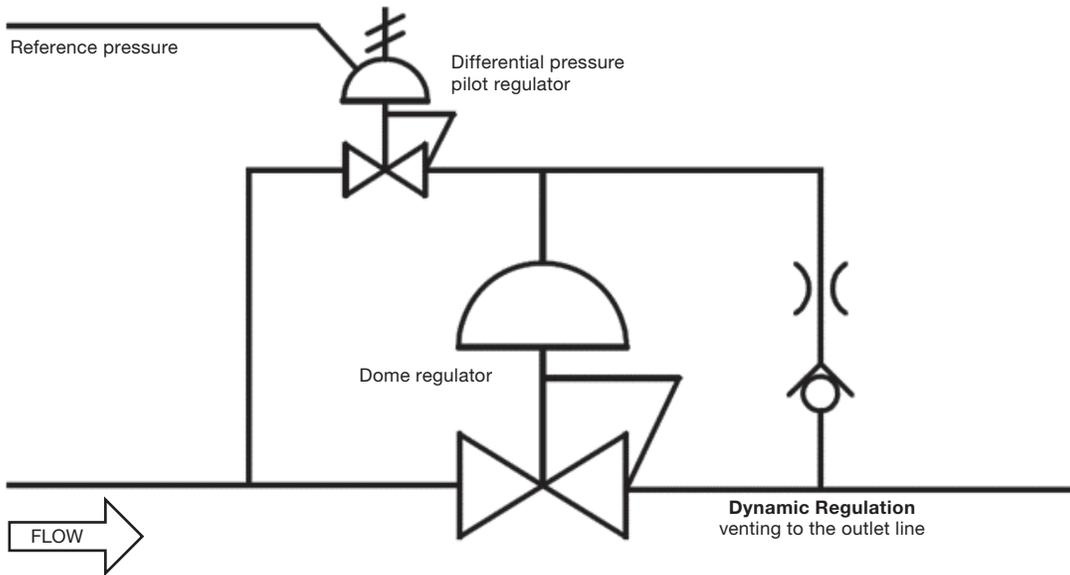

Figure 4
- **Differential pressure pilot control.** In this setup a reference pressure line can be connected to the integral pilot regulator (Figure 4). The pilot regulator can then be adjusted to set a bias pressure. The main regulator will then be set to an outlet pressure equal to the reference pressure plus the bias pressure.